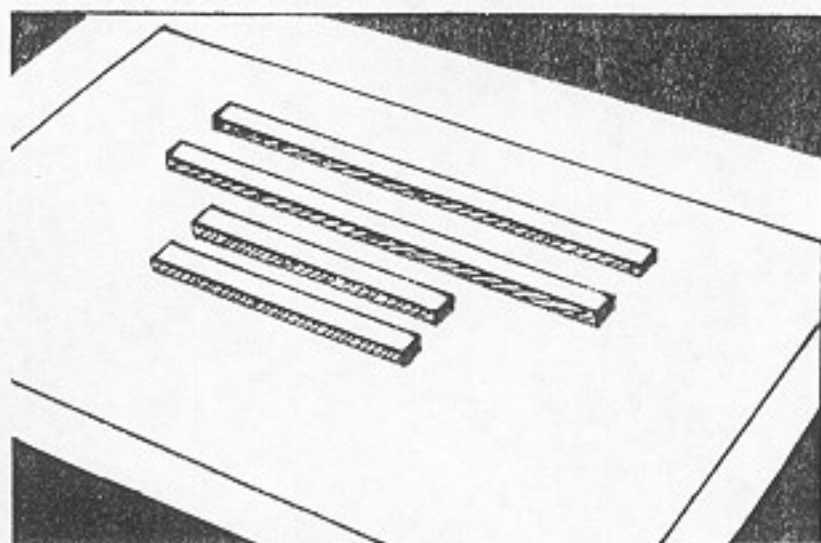

Fig. 23. Pieces for Screen Frame
1. Cut the lumber to the required size, Fig. 23.